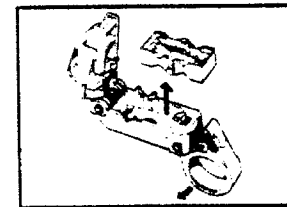

Figure 18
- B. Remove the cassette from the tool by moving the locking latch in the direction of the arrow (Fig 18). Then push the cassette out of the tool by inserting wrench, or appropriate object, through hole in bottom of the tool. Turn blade adjustment set screws counterclockwise until they are fully retracted.